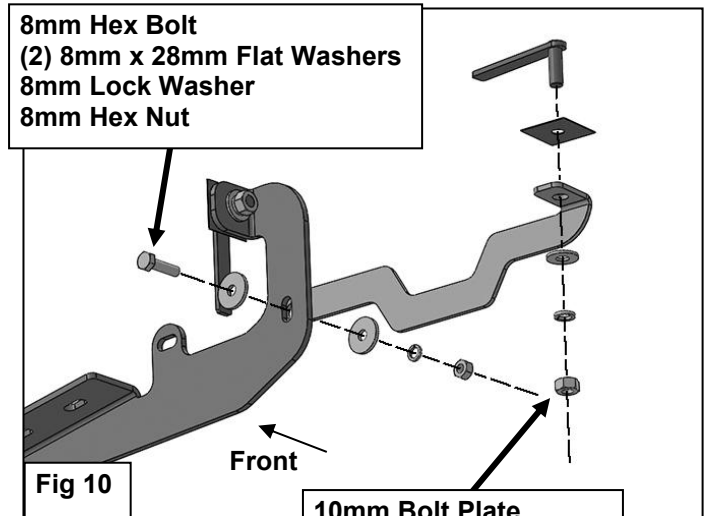

Fig 10
12. Bolt the outer end of the Support Bracket to the Mounting Bracket with (1) 8mm Hex Bolt, (2) 8mm Flat x 28mm Large Flat Washers, (1) 8mm Lock Washer and (1) 8mm Hex Nut, **(Figure 10)**.